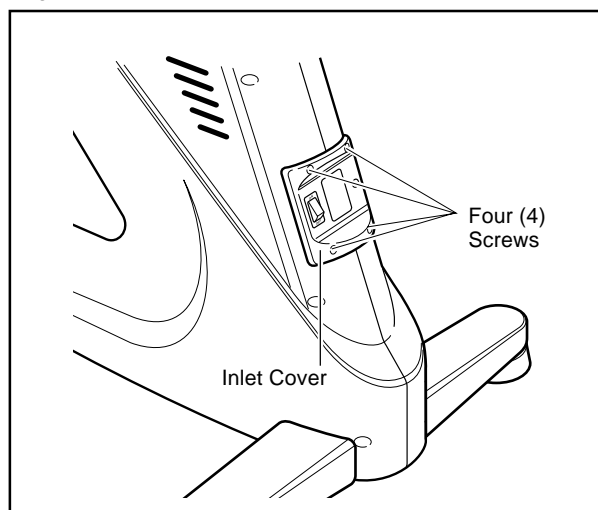

Fig. 5
3. Mount the inlet cover with four screws. (Fig. 5)